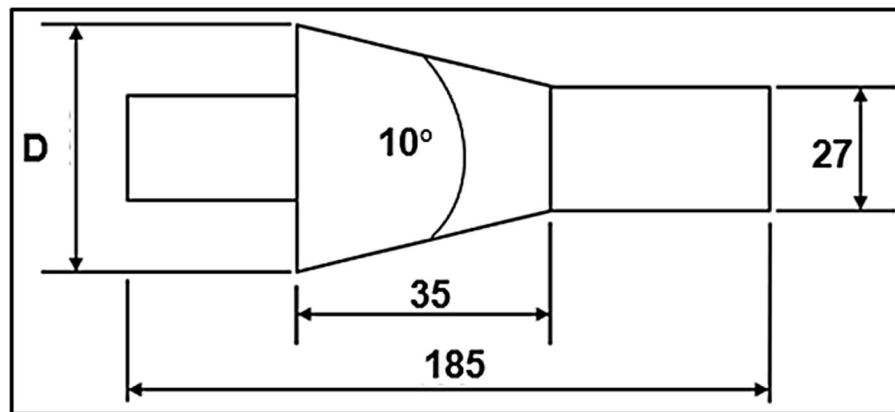

FIGURE 4.5
4.5 FIGURE 4.5 below shows a taper with an included angle of 10° .